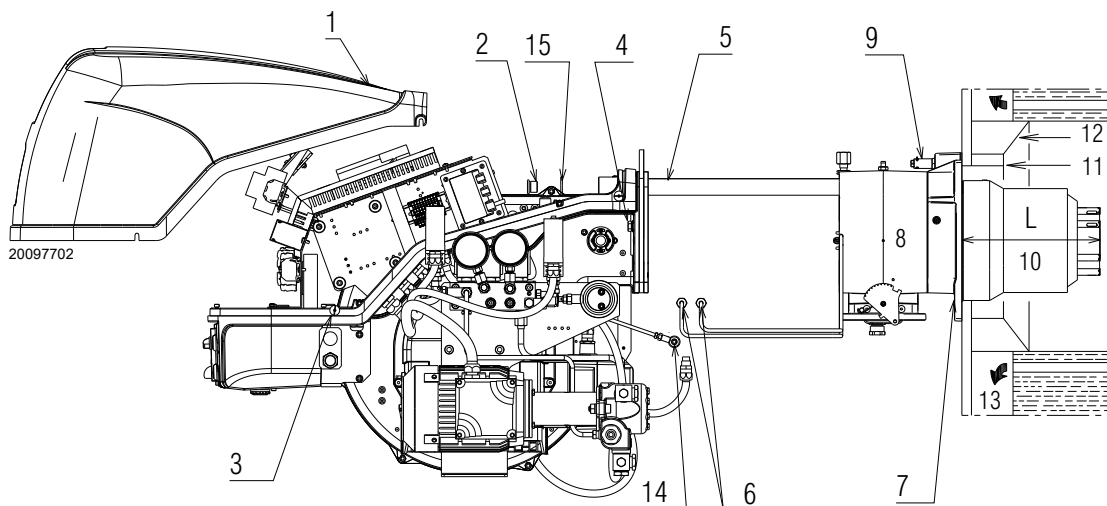
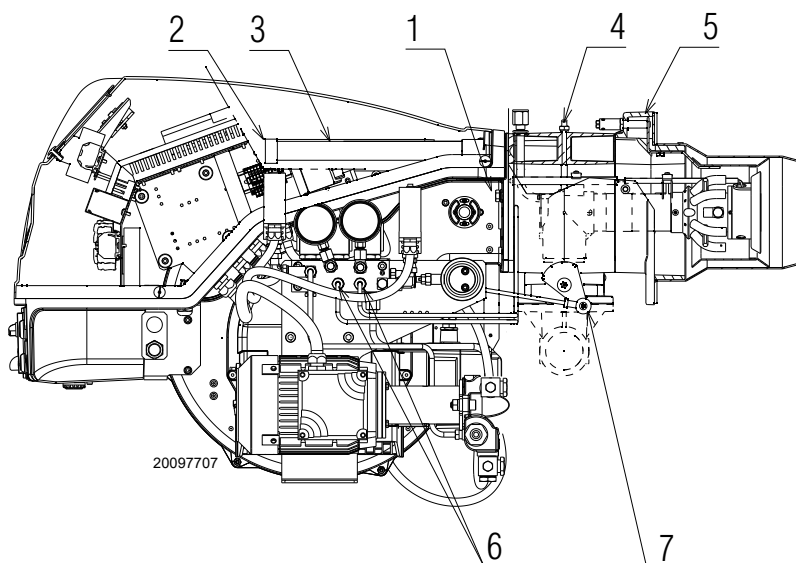

Fig. 11
Fig. 21
This protective insulation must not compromise the extraction of the blast tube. For boilers having a water-cooled front, the insulation 11)-12)(Fig. 11) is not required unless it is required by the boiler manufacturer.
Detach the combustion head from the burner, (Fig. 11):
- Refit the burner to the slide bars 3)(Fig. 21) at approximately 4" from the sleeve 4) - burner positioned as shown in Fig. 11, page 18 - insert the ignition electrode cables.
- Slide the burner up to the sleeve so that it is positioned as shown in Fig. 21;
- refit screws 2)(Fig. 21) on slide bars 3) including the safety plate 15)(Fig. 11, page 18);
- connect the oil pipes again by screwing on the two connectors 6)(Fig. 11, page 18).